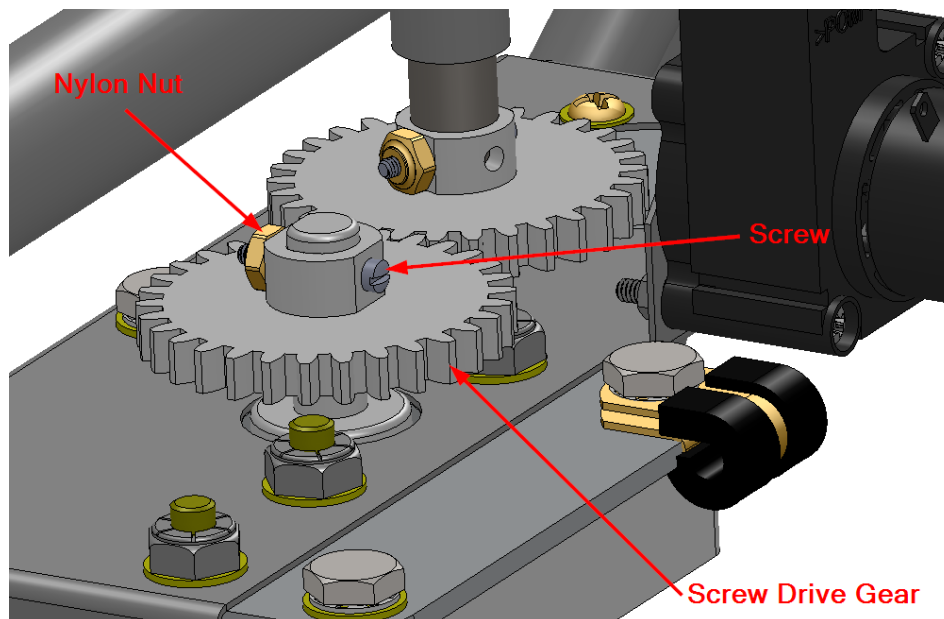

Figure 2 – Screw Drive Gear Removal
5. Remove MS35275-208 fillister head screw and MS21044N-02 nylon lock nut from screw gear attached to trim motor and slide screw gear up and off the motor shaft. See Figure 2.